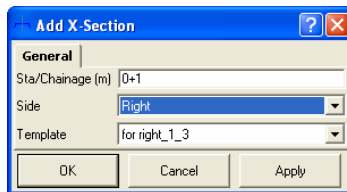

Figure 9-62. Add X-Section
2. In the *General* tab of the **Add X-Section** dialog box, set the following parameters (Figure 9-62):